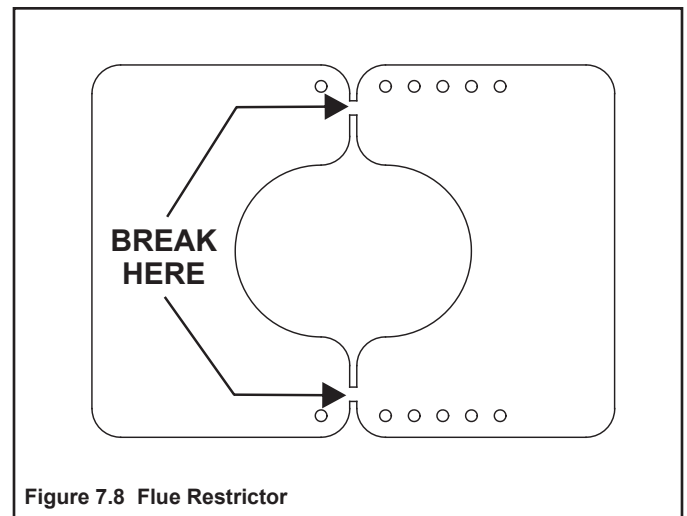

Figure 7.8 Flue Restrictor
2. Break the flue restrictor into two pieces. Do this by bending the part back and forth until it breaks (see Figure 7.8).